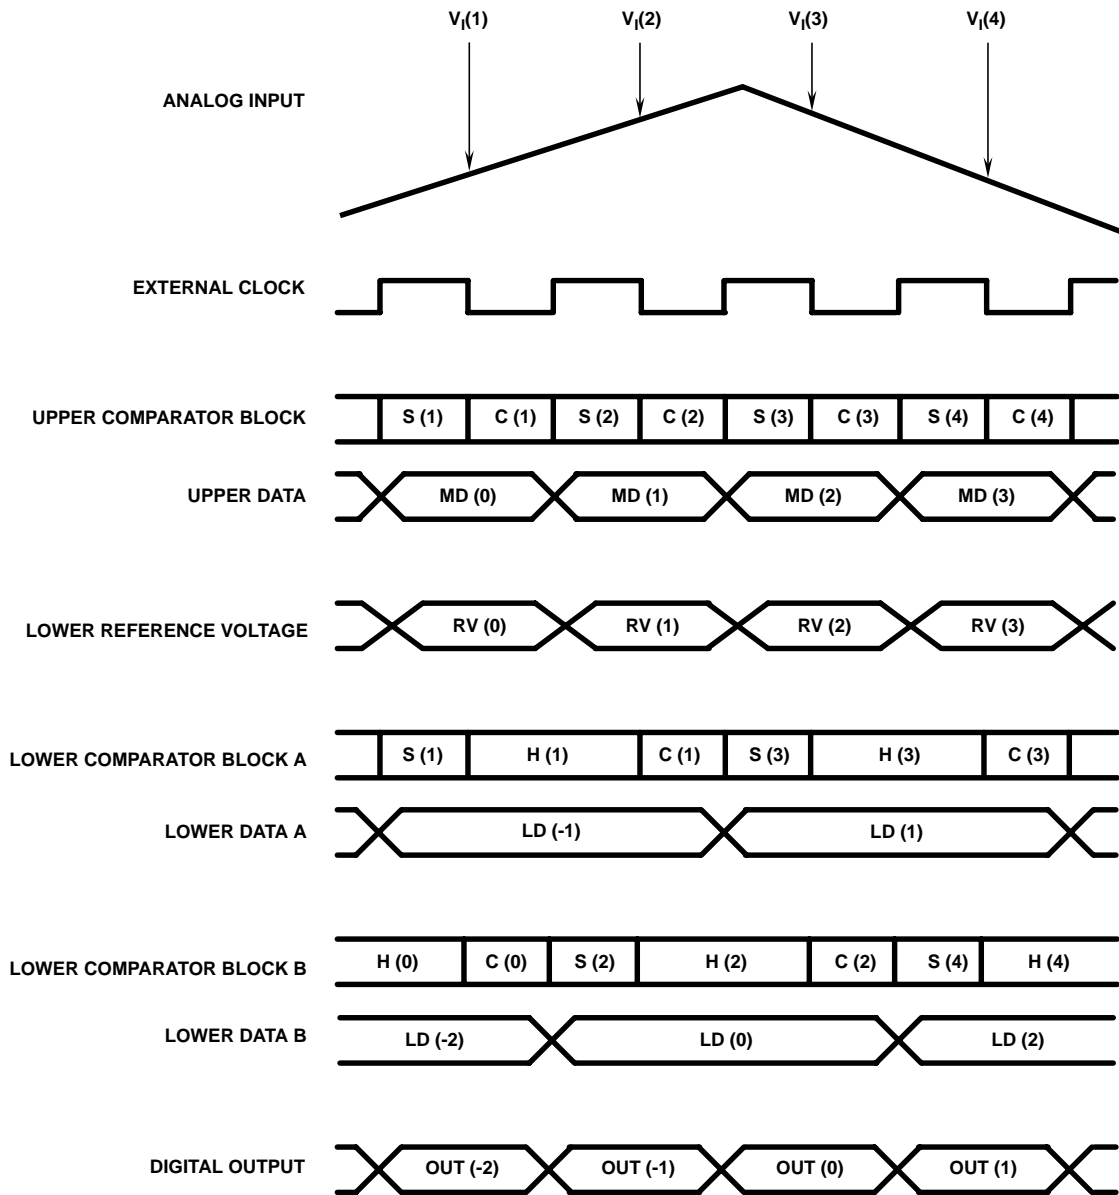

FIGURE 1.
The operation of the part is depicted in the timing diagram of Figure 1. A reference voltage that between  $V_{RT}$  and  $V_{RB}$  is constantly applied to the upper 4-bit comparator group. The analog input is sampled,  $V_I(1)$ , with the falling edge of the first clock by the upper comparator group. The lower block A also samples the analog input,  $V_I(1)$ , on the same edge. The upper comparator block finalizes comparison data MD(1) with the rising edge of the first clock. Simultaneously the reference supply generates a reference voltage RV(1) that corresponds to the upper results and applies it to the lower comparator block A. The lower comparator block finalizes comparison data LD(1) with the rising edge of the second clock. MD(1) and LD(1) are combined and output as OUT(1) with the rising edge of the third clock. There is a 2.5 cycle clock delay from the analog input sampling point to the corresponding digital output data. The lower comparator blocks A and B alternate generating the lower data in order to increase the overall ADC sampling rate.